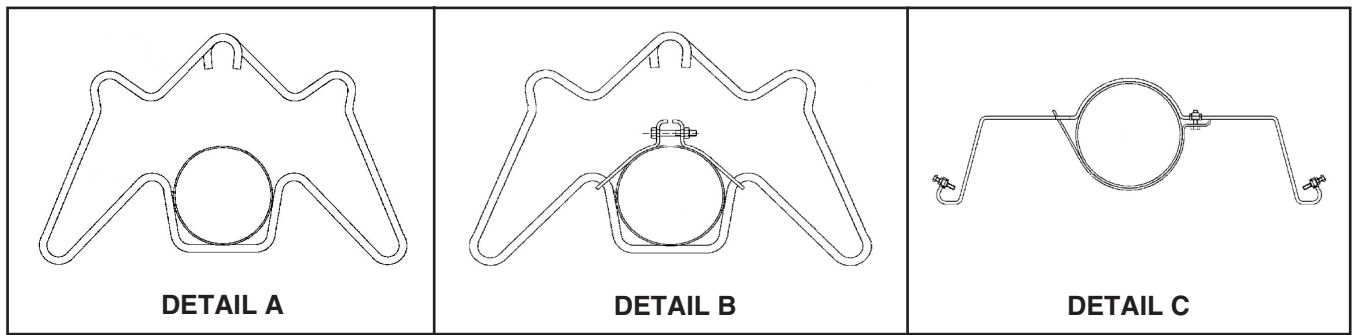

Figure 13. Bracket Installation
- a. Slide suspension brackets (see Figure 13, DETAIL A) onto emitter tube assembly and position them in accordance with SYSTEM CONFIGURATIONS section.
- b. Install tube strap (see Figure 13, DETAIL B) on suspension bracket that will be closest to burner cabinet:
- (1) Loosen tube strap nut and bolt.
- (2) Position strap over emitter tube and hook both strap ends onto suspension bracket.
- (3) Tighten nut and bolt.
- c. Install reflector brackets (see Figure 13, DETAIL C):
- (1) Remove bracket nut and bolt.
- (2) Position bracket over emitter tube and re-install nut and bolt hand-tightened—nut and bolt will be tightened after reflectors are installed as bracket positioning may need to be adjusted.